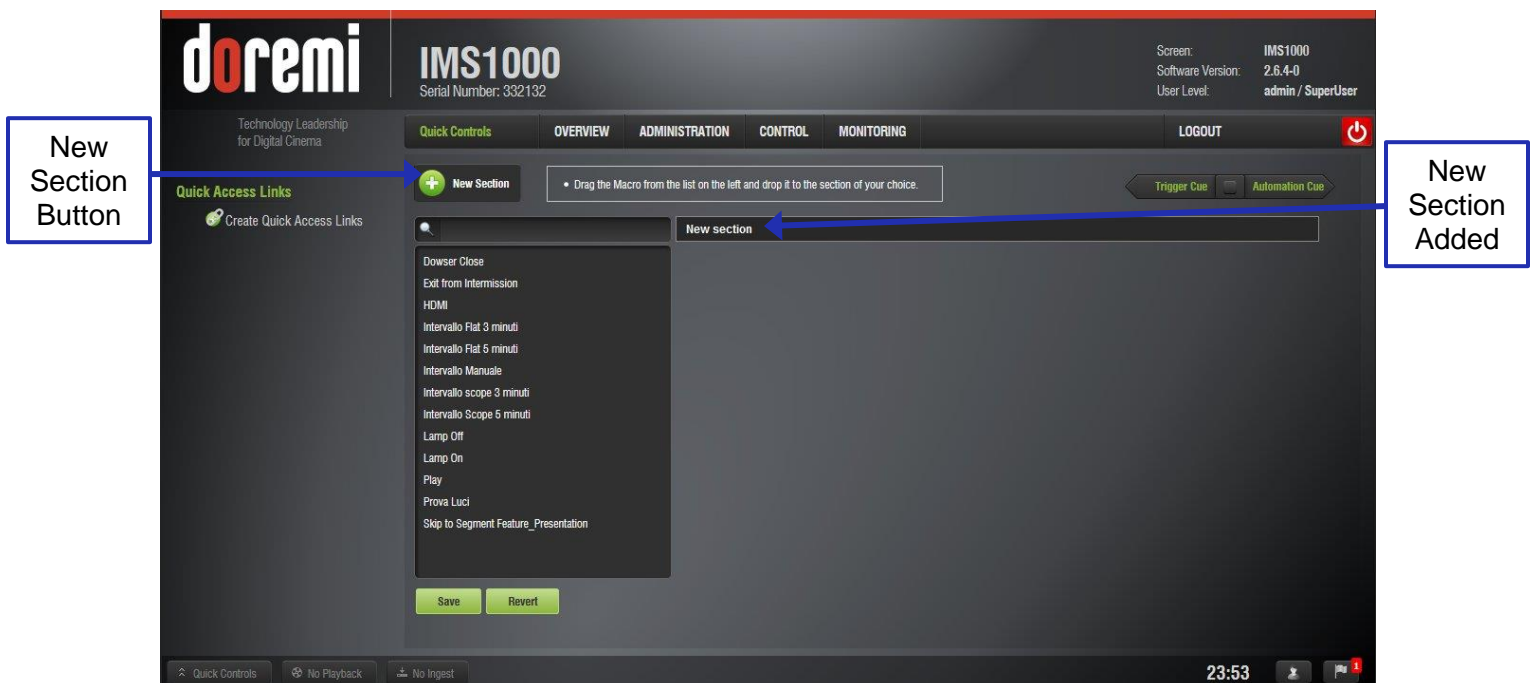

Figure 155: Quick Controls New Section
- Click on New Section. This will create a tab to the right of the macro list and you will be able to define the section according to the function of the created macro (Figure 155).